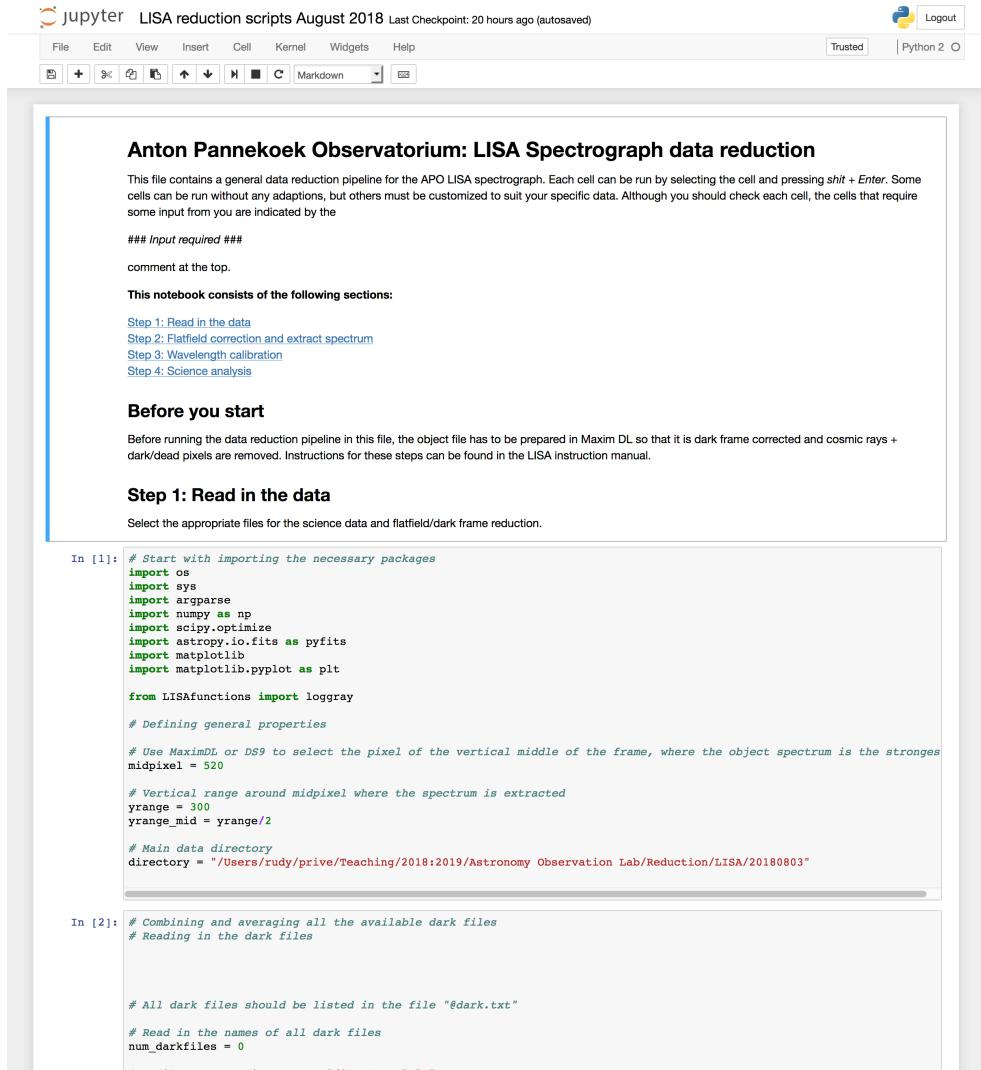

Fig. 21: The Jupyter notebook interface at start-up.
- To be able to run the notebooks, the notebook server as to run in the background. To start this server, first open the Command Prompt (Windoes) or an xterm (Linux/MacOS). Go to the directory of your data and type in "jupyter notebook". This will start the server and a separate (browser) window will appear with a directory structure. If indeed you are in your data directory, the notebooks should be visible in this list; if not, go to the directory in which you have stored the copies of the notebooks. Click on the notebook (one of the files ending in ".ipynb") you want to run. A screen will open that looks similar to what is shown in Figure 21.